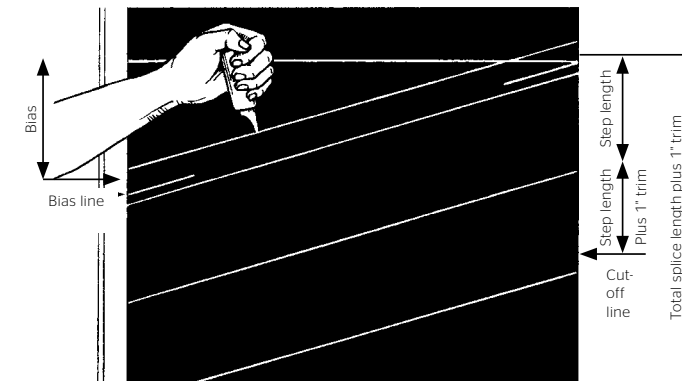

Fig. 11-1
halved and the result will usually give an accurate line. Mark the cutoff line, which is parallel to the bias line (Fig. 11-1).
- Cut-off the belt at the cut-off line (Fig. 11-1).